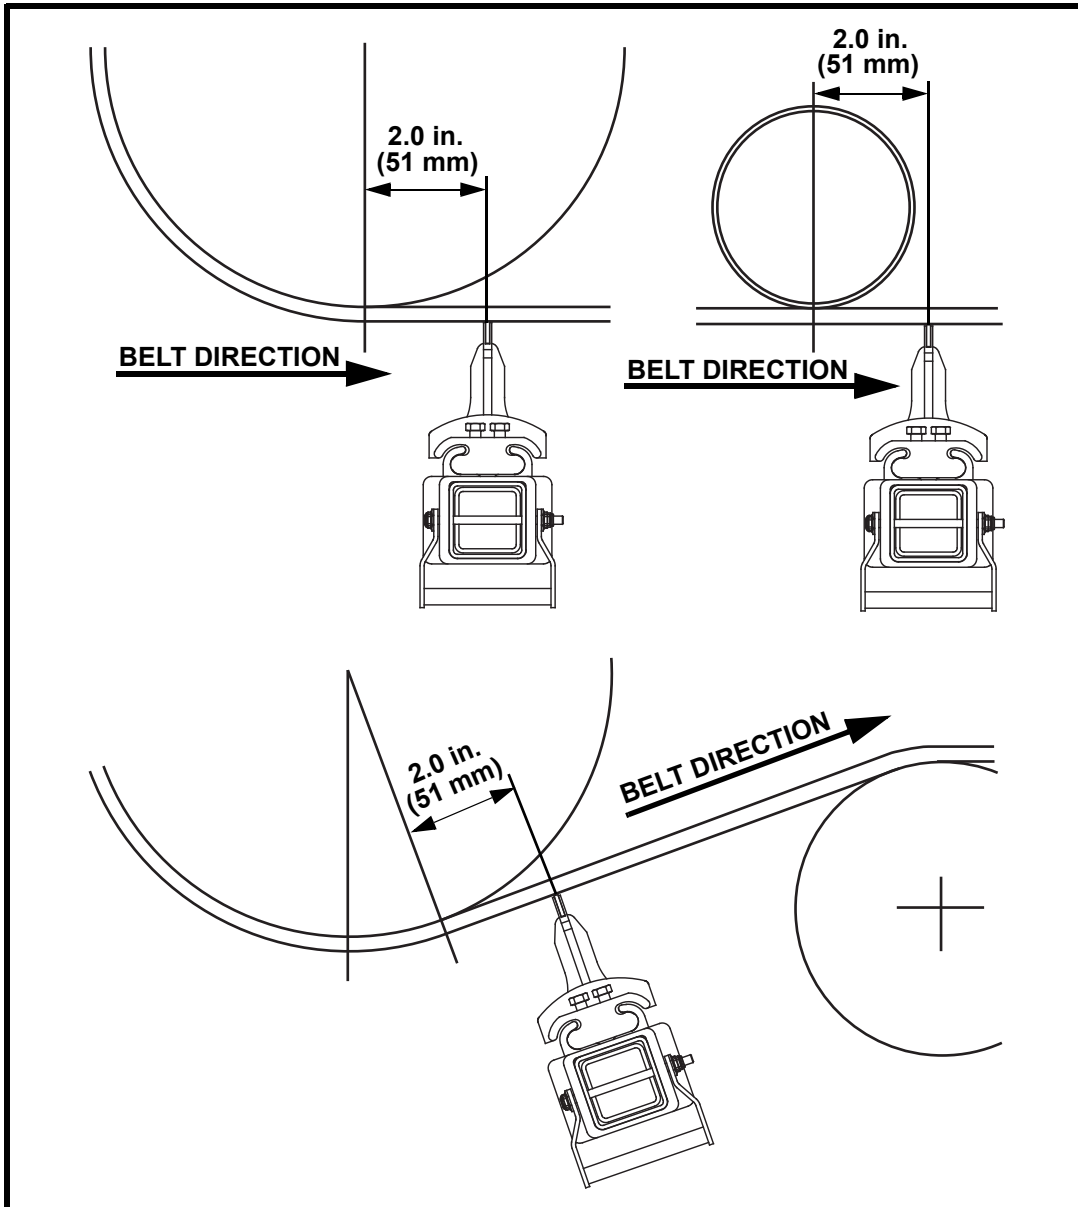

Figure 1. Primary Belt Direction
Solid backing of the blade is essential to ensure proper operation and efficient cleaning. Install the cleaner adjacent to the head pulley or a flat pressure roller to obtain best cleaning results. See Figure 1.
1. On the return side of the belt, locate the tangent point at which the belt leaves the head pulley. Measure a distance 2.0 in. (51 mm) and draw a line perpendicular to the belt at this point. See Figure 1.
For installation below pressure rollers, mark the vertical line 2 in. (51 mm) from the centerline of the roller. See Figure 1.